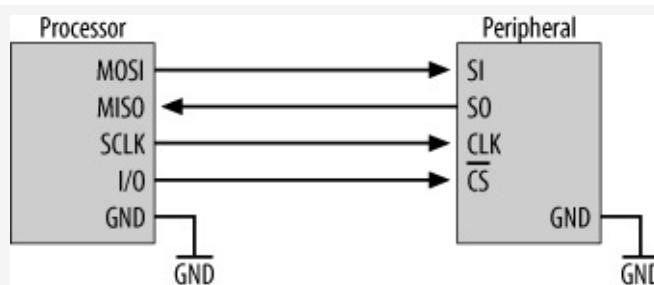

Figure 7-1. Basic SPI interface
MOSI is generated by the master and is received by the slave. On some chips, **MOSI** is labeled simply as **Serial In (SI)** or **Serial Data In (SDI)**. **MISO** is produced by the slave, but its generation is controlled by the master. **MISO** is sometimes known as **Serial Out (SO)** or **Serial Data Out (SDO)** on some chips. The chip select to the peripheral is normally generated by simply using a spare I/O pin of the master. Figure 7-1 shows a microprocessor interfaced to a peripheral using SPI.